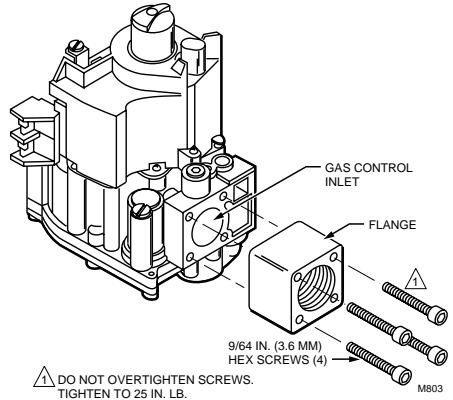

Fig. 2. Install flange to gas control.
4. With the O-ring facing the gas control, align the screw holes on the gas control with the holes in the flange. Insert and tighten the screws provided with the flange. See Fig. 2. Tighten the screws to 25 in. lb of torque to provide a gas-tight seal.